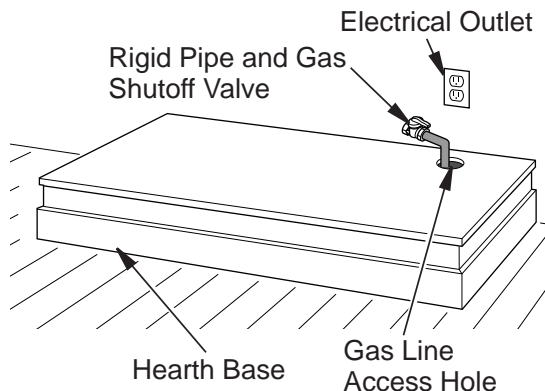

Figure 9 - Placing Hearth Base Accessory Against Wall
2. Install a properly grounded, 120 volt three-prong electrical outlet at fireplace location if an outlet is not there. If possible, locate outlet so cabinet mantel will cover it when installed (see **Figure 9**).
4. Place hearth base accessory against wall at installation location. Cut an access hole in hearth top to run flexible gas line to fireplace (see **Figure 9**). Make sure to locate access hole so cabinet mantel will cover it when installed.